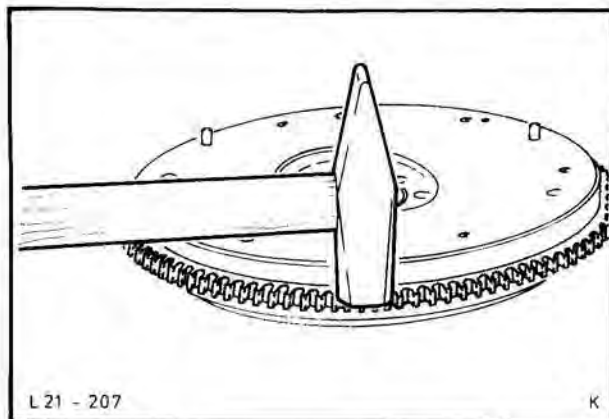

Fig. 239. Remove ring gear from flywheel
2. Remove ring gear by means of light blow with a hammer, Fig. 239.